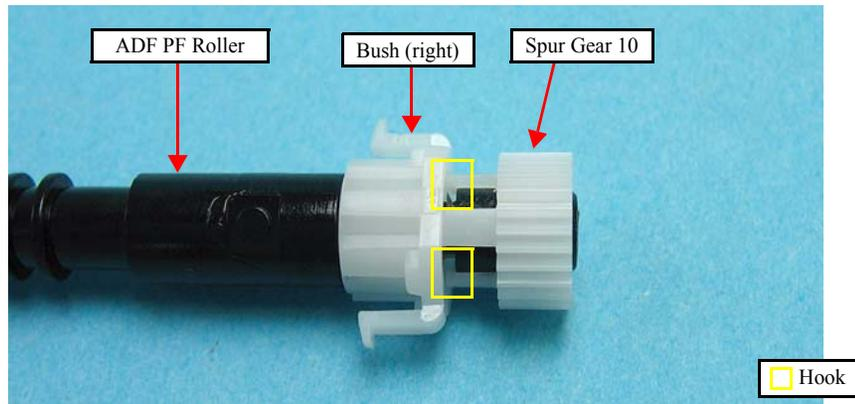

Figure 4-127. Removing the ADF PF Roller (3)
4. Attach the Spur Gear 10 to the ADF PF Roller, and secure the hooks of the Spur Gear 10 to the groove of the ADF PF Roller. (See Figure 4-127.)